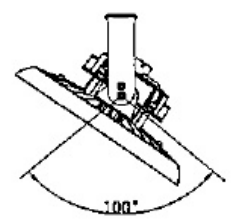

Figure 7
4. After installation, connect the wire of the fixture to the corresponding mains according to local wiring rules, ensure the connection is secure and has a clean connection. By adjusting the brackets screws, users can adjust 50° to the left or right vertically. (figure 7)